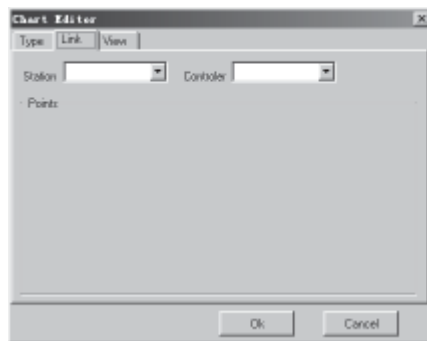

Fig. 4-34 Insert Chart Diagram and Form
1. Select and click the button  and then move the mouse to the drawing interface, and the dialogue frame as in Fig. 4-34 will be shown in the system.